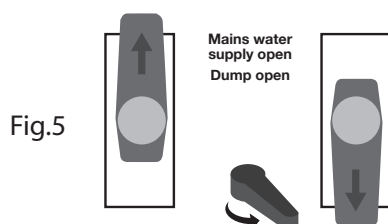

Fig.5
- 3) Set the valves and flow reverser as per Figure 5. Open the clean water inlet tap and switch on the pump.